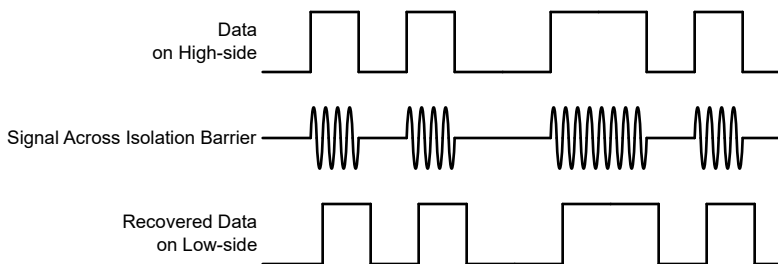

Figure 6-4. OOK-Based Modulation Scheme
The AMC23C12-Q1 uses an on-off keying (OOK) modulation scheme, as shown in Figure 6-4, to transmit the comparator output states across the SiO₂-based isolation barrier. The transmit driver (TX) shown in the Functional Block Diagram transmits an internally-generated, high-frequency carrier across the isolation barrier to represent a digital *one* and does not send a signal to represent a digital *zero*.